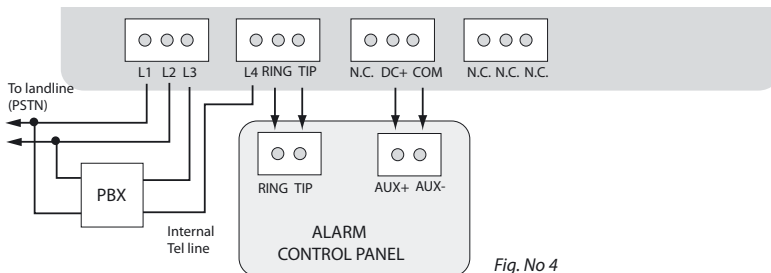

Fig. No 4
1. Connect the circuit as shown in Fig. No.4 – connect telephone input of the Alarm Control Panel RING/TIP to RING/TIP connectors of communicator ET08.